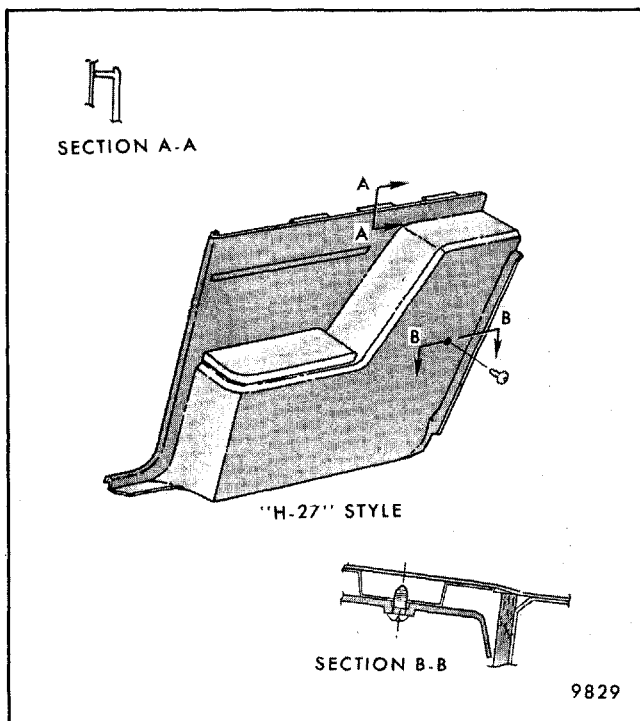

Fig. 6-5-Quarter Trim Assembly Attachment - H-27 Style
- b. On H-27 styles, remove single attaching screw at rear of trim panel (Fig. 6-5).